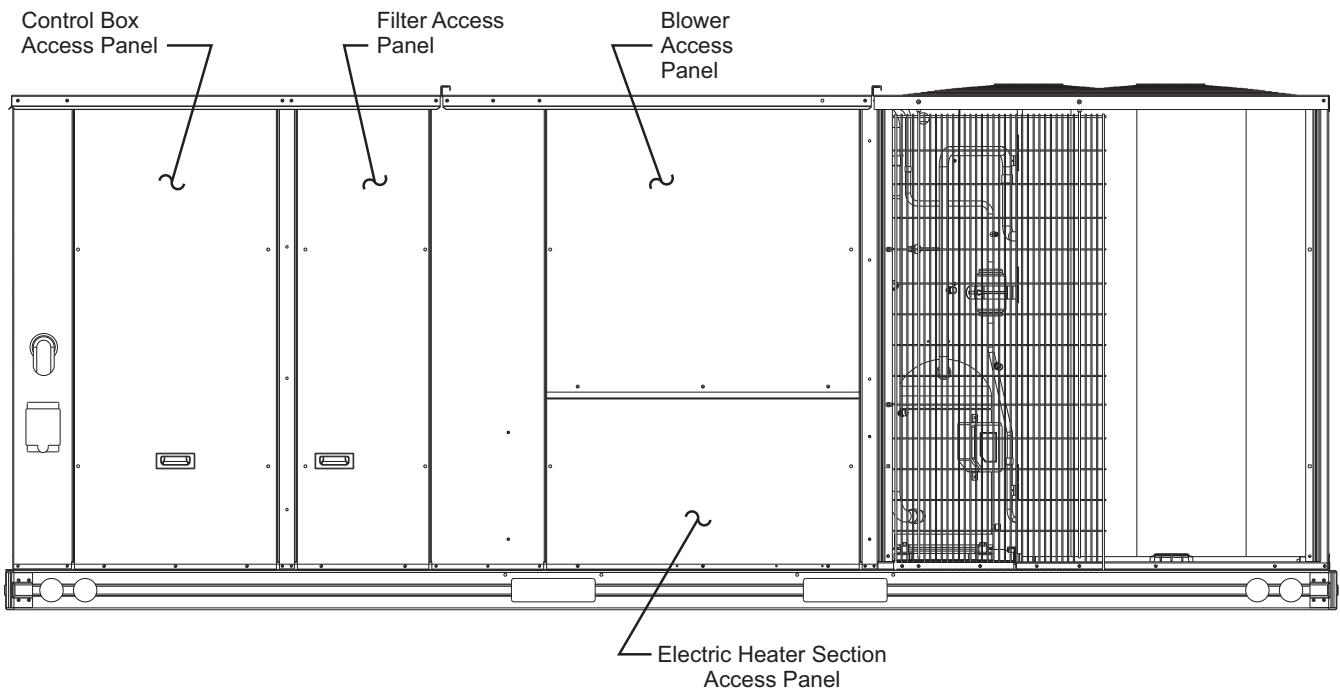

Fig. 40 — Typical Unit – Access Panel Locations
2. Remove electric heater section access panel, control box access panel, filter access panel, and blower access panel from base rooftop unit. (See Fig. 40.)